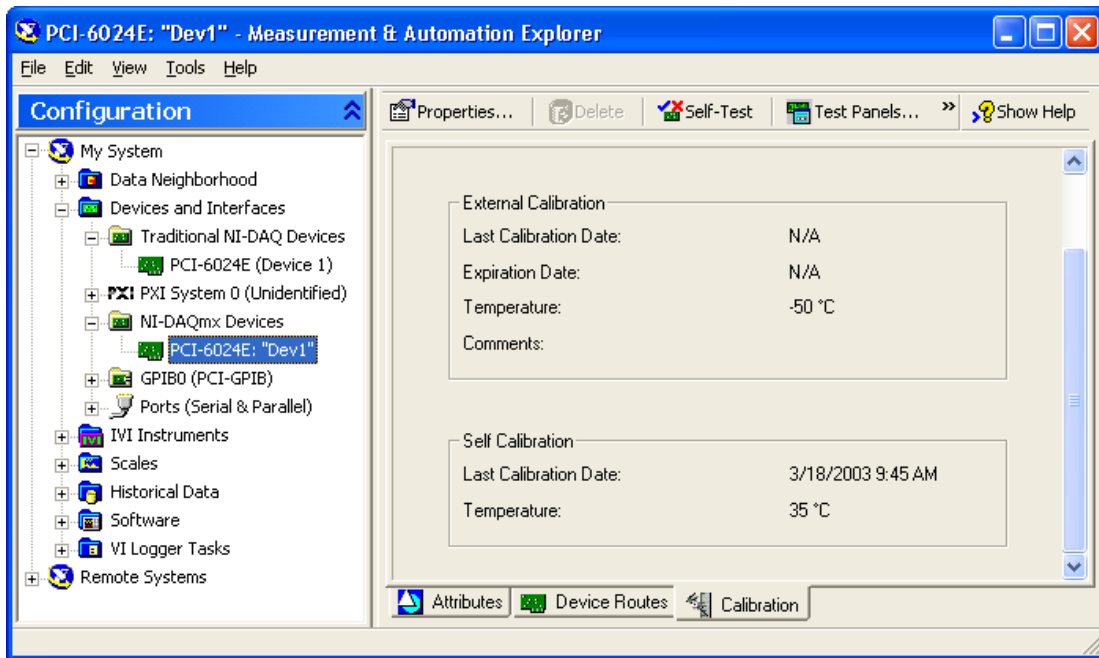

Figure 10.5
- The Calibration (Figure 10.5) tab provides information about the last time the device was calibrated both internally and externally.